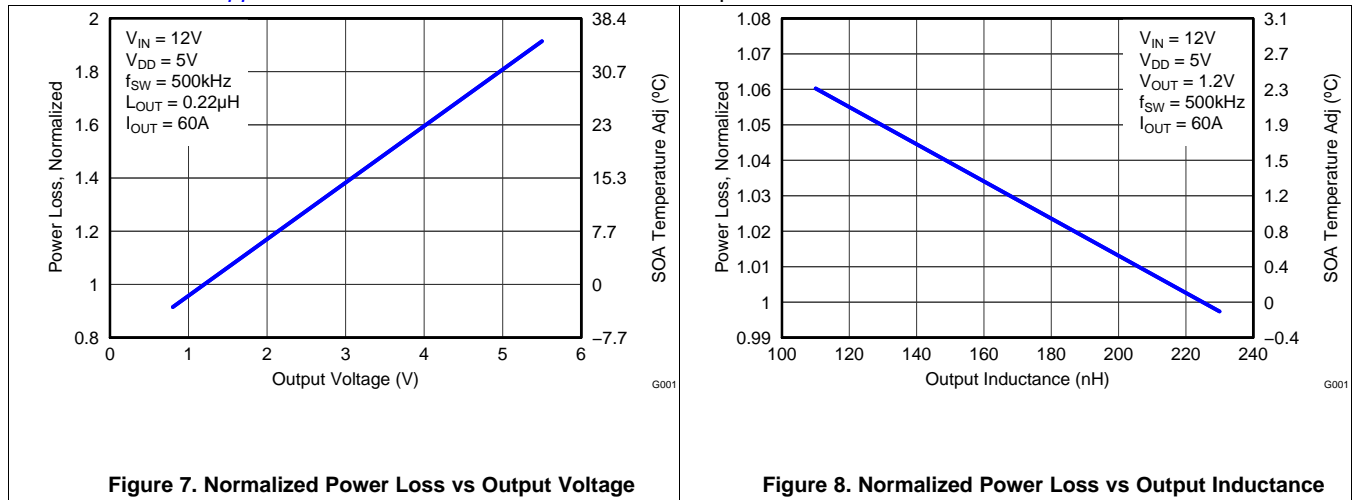

Figure 7. Normalized Power Loss vs Output Voltage
- Normalized Power Loss for output voltage \approx 1.06 (Figure 7)
- SOA adjustment for output voltage \approx -0.8°C (Figure 7)